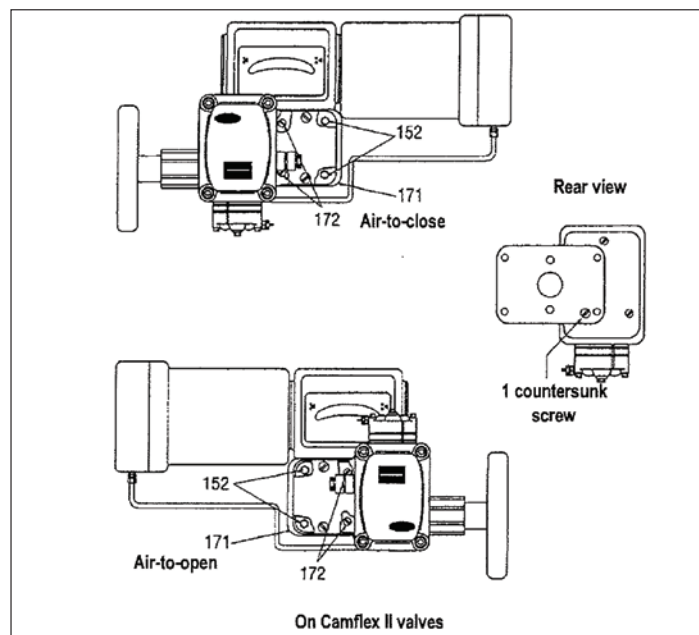

Figure D2 - Mounting position of 8013 Series positioner with cam
**Note:** If the cam (155) has been mounted on the valve shaft, remove it before installing the positioner.
With two cap screws (152) and a countersunk screw, assemble the mounting plate (171) on the molded bracket of the positioner and on the positioner. (The molded bracket is already fastened to the positioner with two fillister head screws). Then secure this assembly on the valve yoke with two countersunk screws (172). The orientation of the positioner on the valve is function of the actuator action. It is indicated in figure D2.